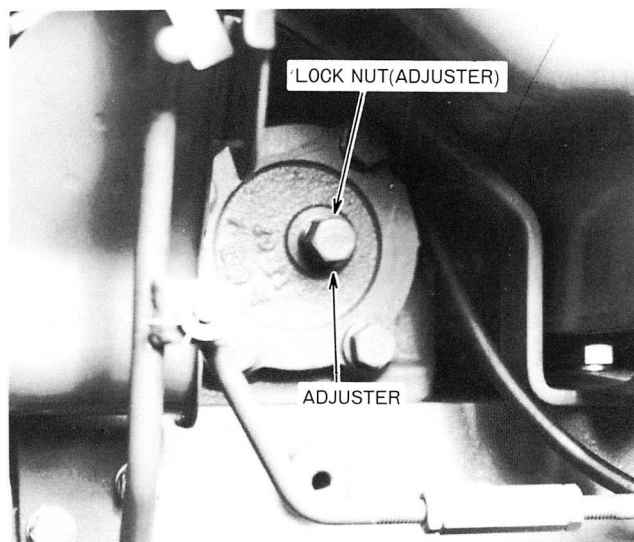

Figure 62 — Steering Wheel Free Play Adjustment
2. Loosen the adjuster locknut on the right side of the steering gear box and turn the adjuster screw, see Figure 62. Turning the screw clockwise will decrease the free play while turning the adjuster screw counterclockwise will increase the steering wheel free play.